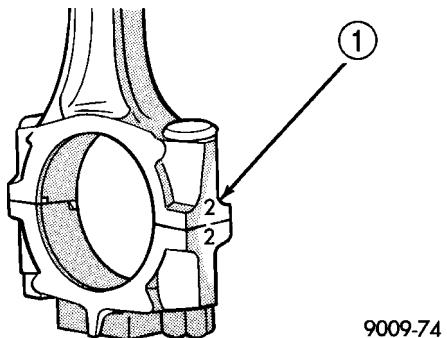

Fig. 81 Connecting Rod to Cylinder Identification
(2) Remove the oil pan. (Refer to 9 - ENGINE/LUBRICATION/OIL PAN - REMOVAL)
(3) Remove top ridge of cylinder bores with a reliable ridge reamer before removing pistons from cylinder block. **Be sure to keep tops of pistons covered during this operation. Pistons and connecting rods must be removed from top of cylinder block. When removing piston and connecting rod assemblies from the engine, rotate crankshaft so that each connecting rod is centered in cylinder bore.**
(4) Inspect connecting rods and connecting rod caps for cylinder identification. Identify them if necessary (Fig. 81).